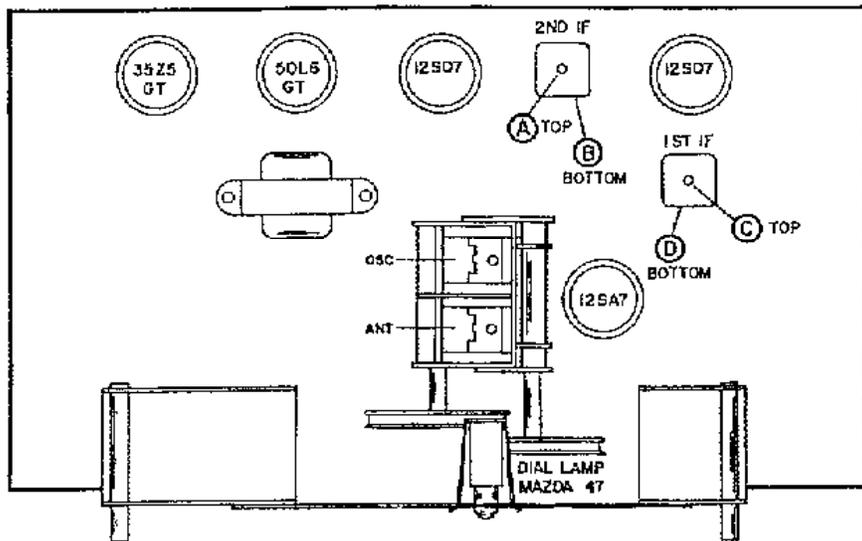

Fig. 3. Top View of Chassis Showing Location of Alignment Adjustments, Tubes and Dial Lamp
TUBE AND DIAL LAMP REPLACEMENT - Refer to Fig. 3 for the location of the tubes and dial lamp used in the receiver. To gain access to the tubes and lamp, remove the back cover from the cabinet. Before attempting to make any replacement, set the BAND SPREAD control fully counter-clockwise and the TUNING control fully counter-clockwise to prevent damage to the tuning gang. To replace a tube, insert the center guide pin into the center hole of the tube socket, rotate the tube until the key drops into position and then push down until the tube is held firmly in the socket. To make a dial lamp replacement, remove the dial lamp socket by compressing the side springs. Make replacement only with a type 47 pilot lamp.
- See Figs. 3 and 4 for location of alignment adjustments.